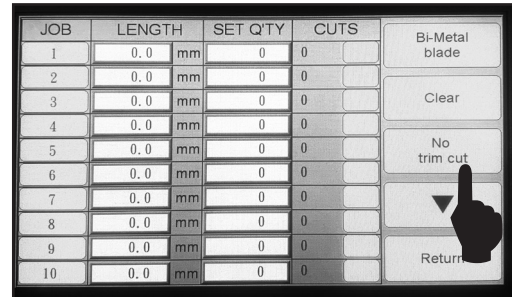

Fig. 5.11
10. Select “trim cut” or “no trim cut”. (Fig. 5.11)